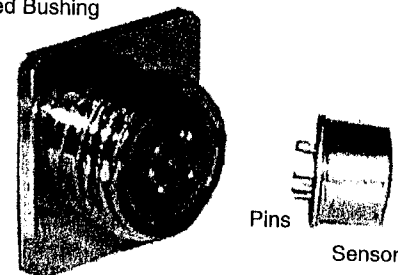

FIG 4
2. Hold the unit with the front end facing you and note the sensor connection inside the threaded bushing on the end of the unit. Note that there are five (5) holes corresponding to the five (5) pins on the sensor – three (3) on the left and two (2) on the right (refer to Fig. 4).